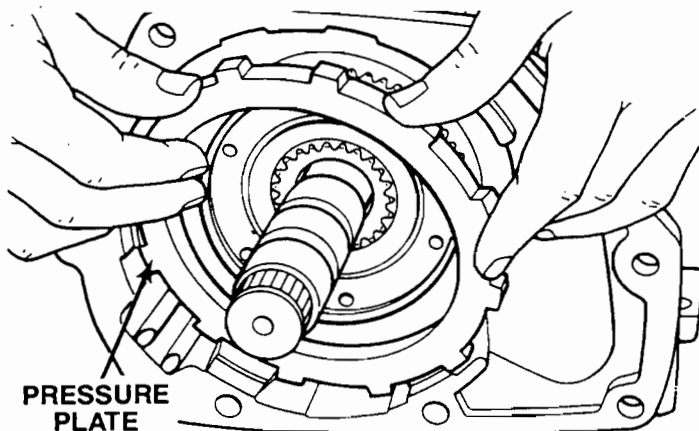

FIGURE 45
14. One by one, install the overdrive clutch plates, be certain to put the thickest plate in last (Figure 45).